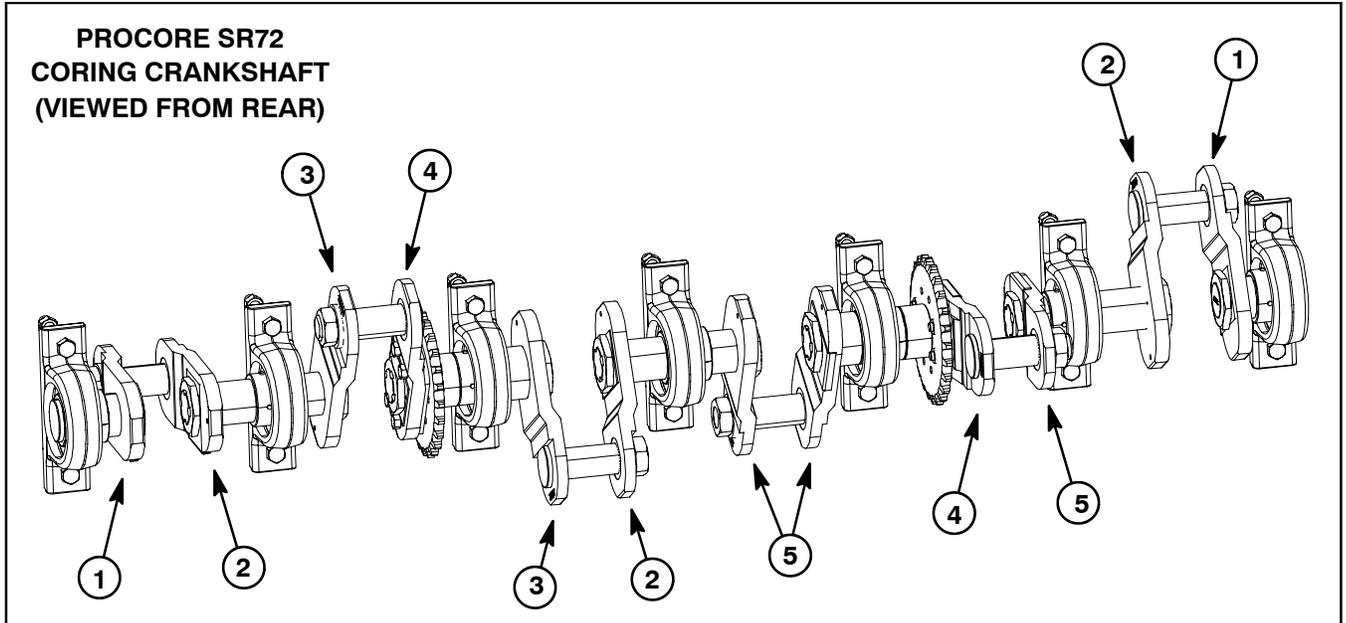

Figure 11
The ProCore SR72 coring crankshaft uses five (5) different crank arms. For identification purposes, the crank arms and crankshaft timing are shown in Figure 11. Refer to your Parts Catalog to identify part numbers for crankshaft components.